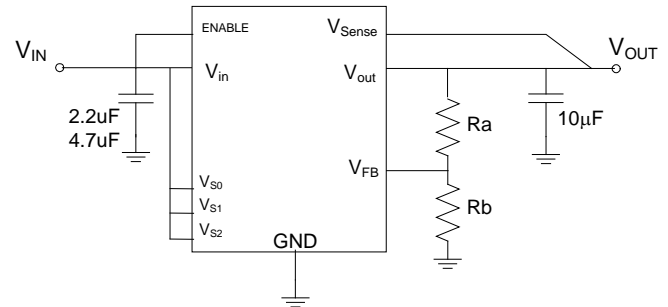
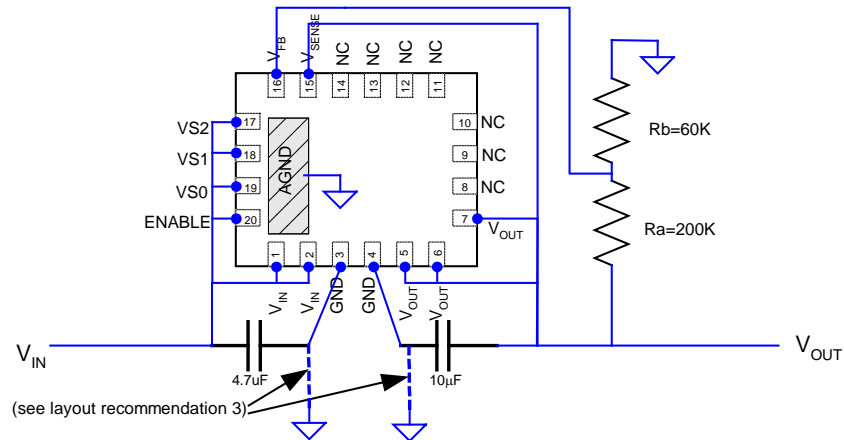

Figure 5. External Divider.
Figure 7. Schematic showing the use of external divider option,  $V_{out} = 2.6V$ .
As described above, the external voltage divider option is chosen by connecting the VS0, VS1, and VS2 pins to  $V_{IN}$  or logic “high”. The EP53x2QI uses a separate feedback pin,  $V_{FB}$ , when using the external divider.  $V_{SENSE}$  must be connected to  $V_{OUT}$  as indicated in Figure 5.
**Recommendation 3:** Multiple small vias (0.25mm after copper plating) should be used to connect ground terminals of the Input capacitor and the output capacitor to the system ground plane. This provides a low inductance path for the high-frequency AC currents, thereby reducing ripple and suppressing EMI (see Fig. 5, Fig. 6, and Fig. 7).
Figure 7 shows an example schematic using an external voltage divider.  $VS0=VS1=VS2=“1”$ . The resistor values are chosen to give an output voltage of 2.6V.